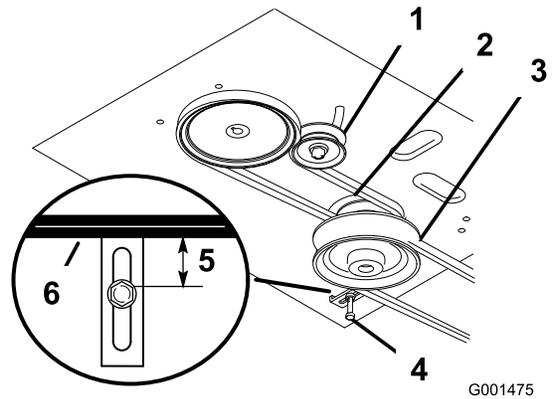

Figure 41
5. Loosen the pivot bolt enough to slide the idler pulley in the slot and remove the traction belt from the engine and the drive pulleys (Figure 41).
6. Install the new drive belt around the engine and the drive pulleys (Figure 41).
7. Slide the idler pulley in the engine frame to tension the traction belt (Figure 41).
8. Install the mower belt (Figure 41).
9. Check the belt guide under the engine frame for the proper adjustment (Figure 41).
4. Remove the mower belt (Figure 41).
13. Check the belt guide under the engine frame for the proper adjustment (Figure 41).